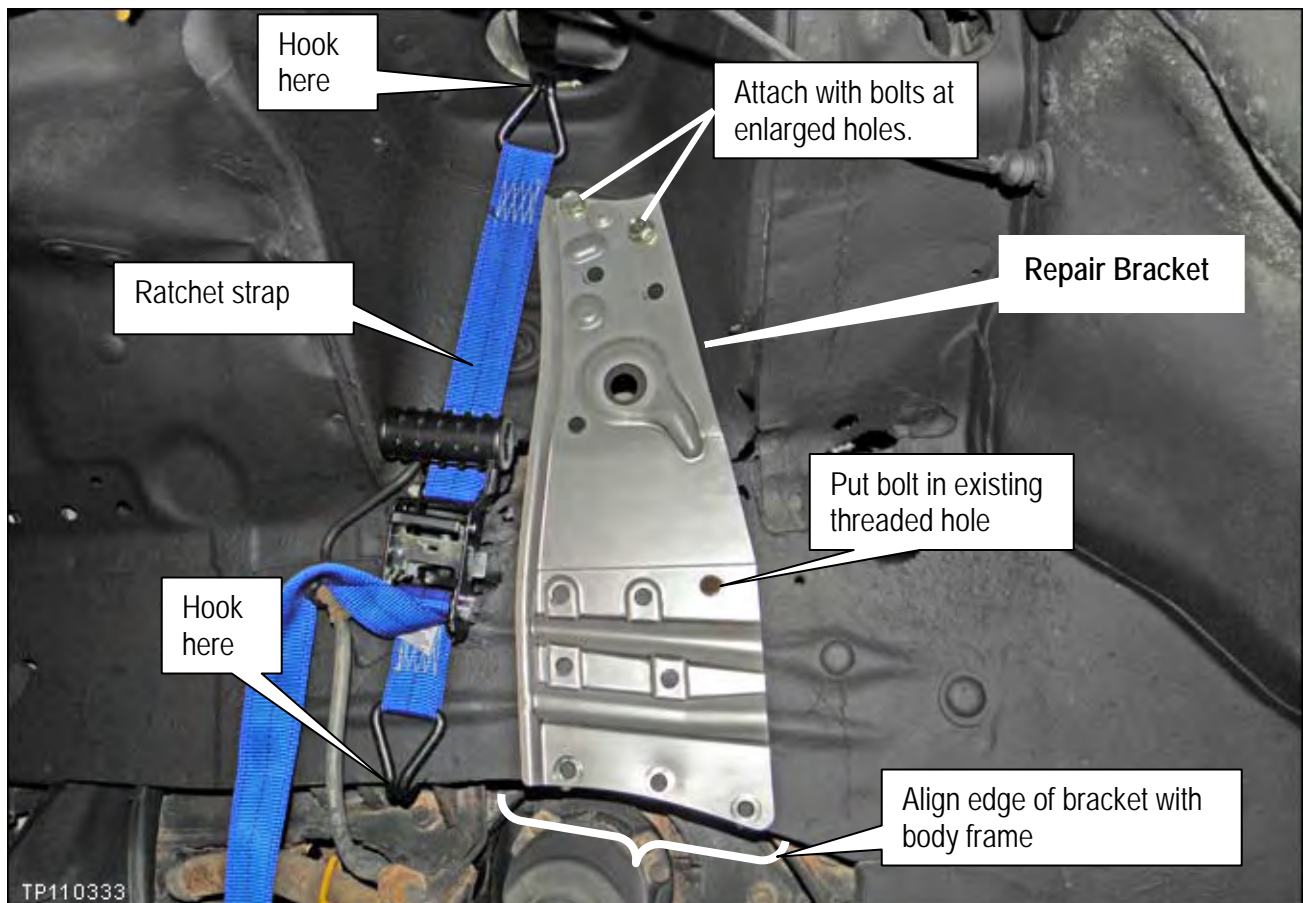

Figure RB8
14. Attach the repair bracket to the existing holes that you enlarged (see Figure RB8).
- a. Attach the ratchet strap as shown in Figure RB8.
- b. Use the ratchet strap to pull the strut housing panel down until the existing threaded hole is aligned with the matching hole in the repair bracket (see Figure RB8).